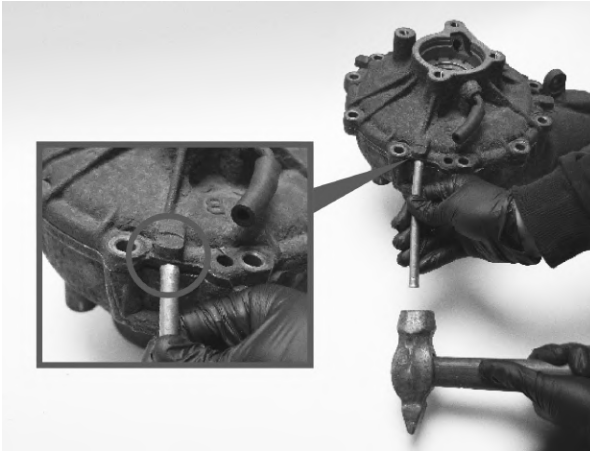

Fig. 6
1.10 Carefully separate the smaller differential housing half from the assembly. To avoid damaging the mating surfaces between the case halves, use the cast-in removal tabs provided on the smaller section. Place a brass drift or punch against one of the tabs and tap it lightly with a hammer. Work around the perimeter, tapping each tab in sequence until the smaller differential housing half separates from the assembly. (**Fig. 6**)